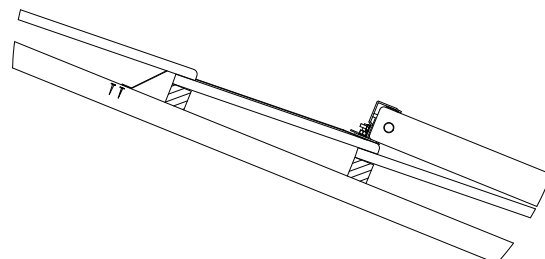

Figure 18 - Replace Tiles
- Replace the tiles and ensure the collector is secure as shown in **Figure 18**.